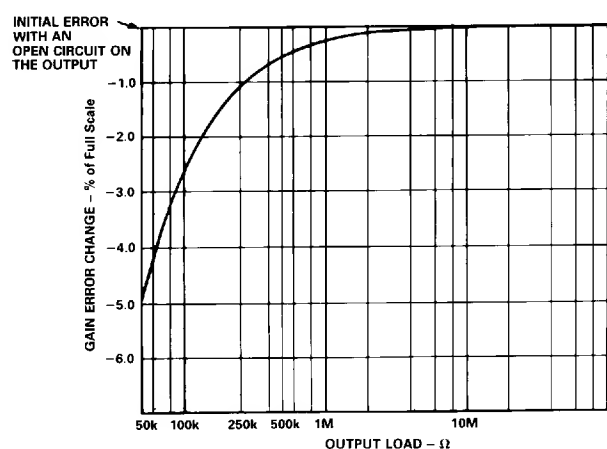

Figure 1. Gain Error Change (% of Full Scale) vs. Output Load ( $\Omega$ ), with  $V_S = 15$  V pk-pk, 25 kHz Square Wave
**Gain Error.** Figure 1 shows the typical gain error for the AD208, expressed in % of full scale, as a function of the isolator's output load ( $\Omega$ ). For minimal gain errors, the AD208 is best operated with output loads greater than or equal to 1 M $\Omega$ .